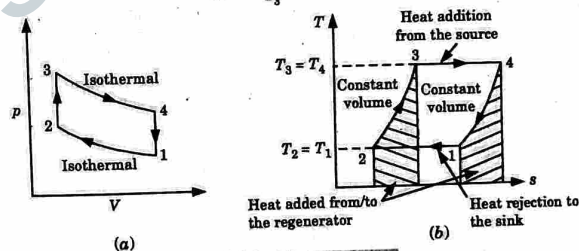

Fig. 1.18.1. Stirling cycle.
4. From Fig. 1.18.1(b), it is clear that amount of heat addition and rejection during constant volume process is same. So efficiency of cycle is given as,